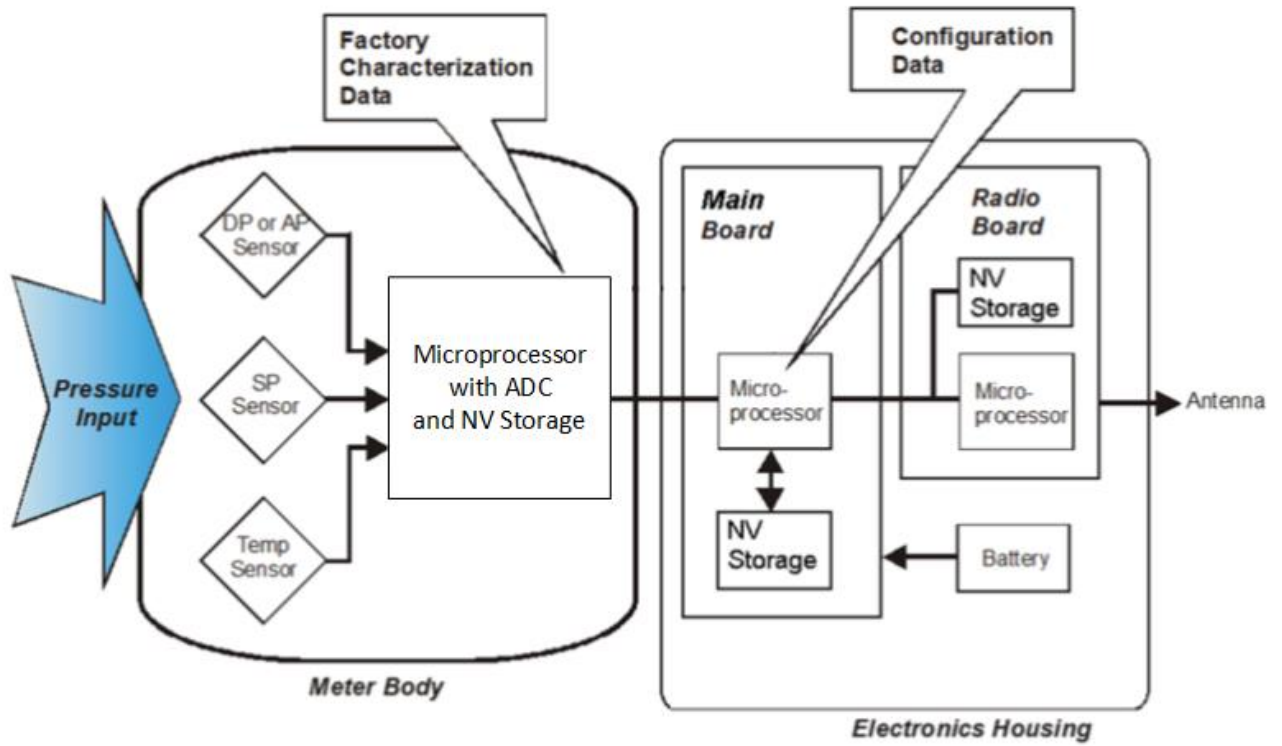

Figure 1-1 - SmartLine Wireless Transmitter Functional Diagram
The transmitter measures the process pressure and transmits the measured value as a digital output signal in user-configured engineering units. Its major components are an electronics housing and a meter body as shown in Figure 1-1 (a typical differential pressure model transmitter).
The Process Variable (PV) is available for monitoring and alarm purposes. Available PV update rates: 0.5, 1, 5, 10, 30 seconds, 1, 5, 15, 30 minutes and 1 hour are set on the OneWireless User Interface. Slower update rates extend battery life. The meter body temperature is also available as a secondary variable for monitoring. Figure 1-1 shows a block diagram of the SmartLine Wireless Transmitter's operating functions.